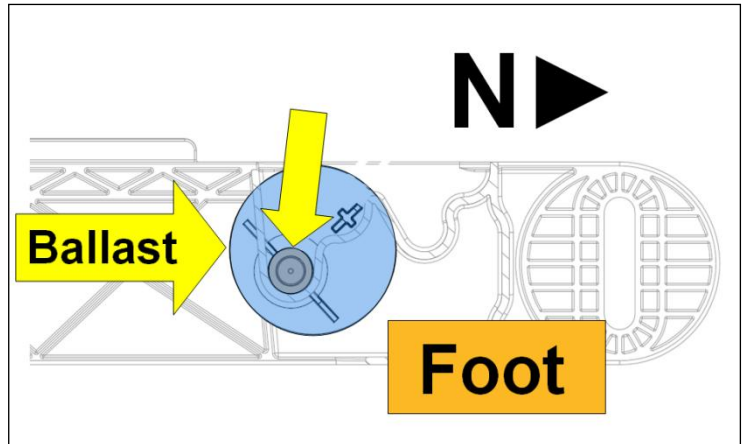
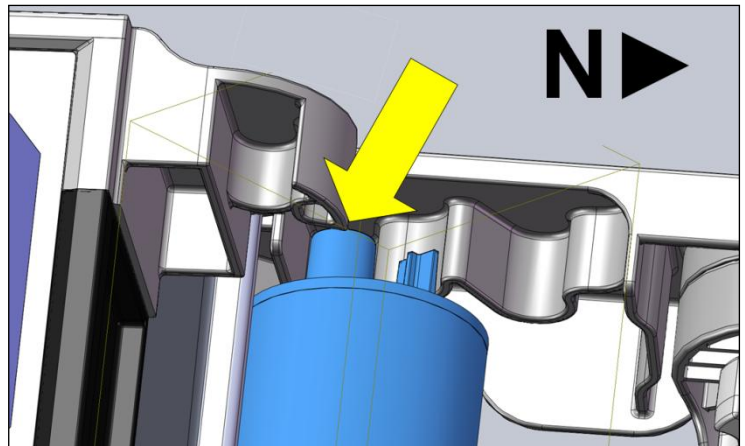

Fig. 37
Fig. 38
2. Ensure that the larger, cylindrical extension at the end of the ballast fits into the lower of the south slot pairs, and that the smaller cross-shaped extension fits into the upper of the south slot pairs (Fig. 37 and Fig. 38).